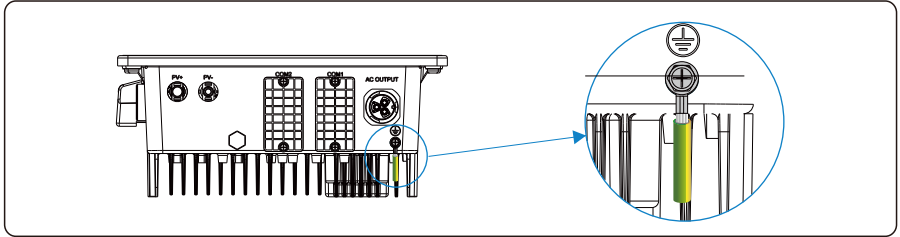

Figure 5.4 Secure the PGND cable
Step 4 Secure the PGND cable (done in steps 1 & 2) with the ground screw and tighten the screw with a socket wrench (torque 1.2 N·m), as shown in Figure 5.4.